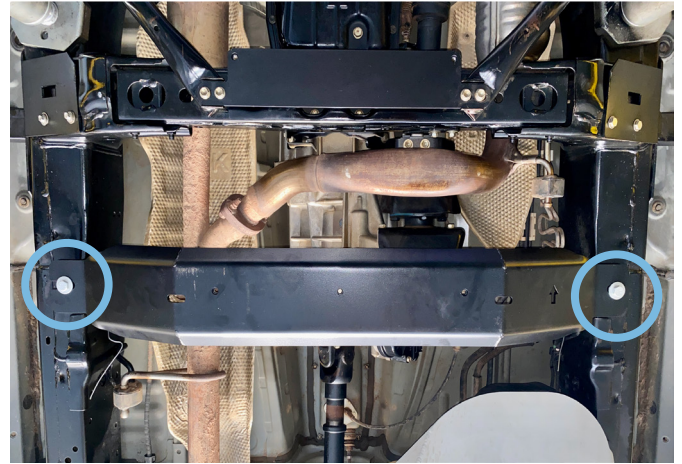

Fig.6
6. Secure the rear mounting bracket (item 3) using M10x25 bolts (item C), M10 flat washers (item G) and hardware from the previous step as shown in Fig.6.